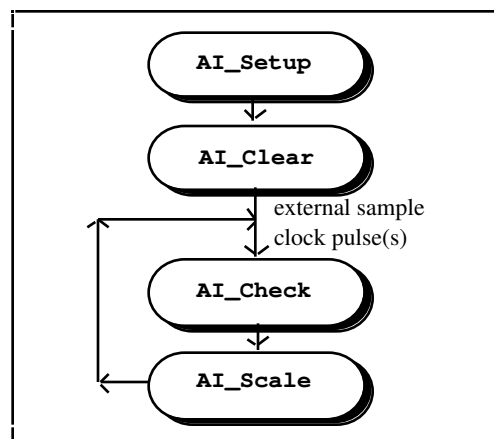

Figure 3-2. Flowchart for Externally Clocked Analog Input Readings
**AI\_Setup**, **AI\_Check**, and **AI\_Clear** are useful for externally triggered conversions as shown in Figure 3-2. See **AI\_Check** for a description of this application.